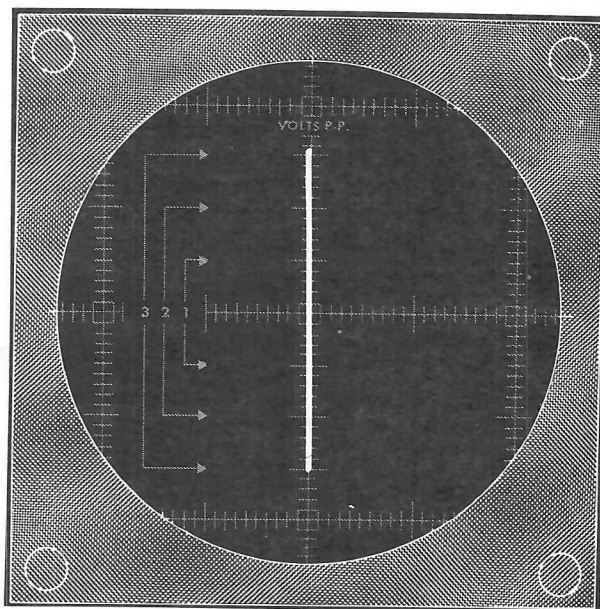

Figure 3-35
- ( ) Adjust the horizontal position (horizontal centering) control so that the line coincides with the vertical axis as in Figure 3-35.